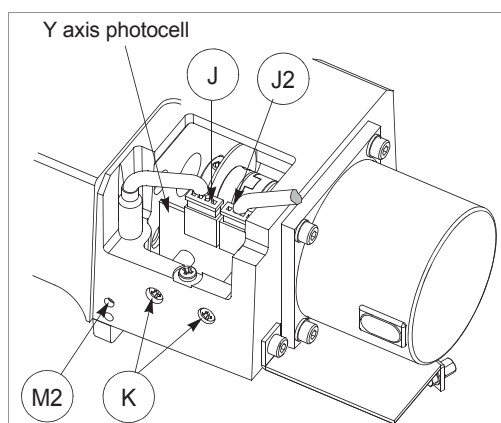

Fig. 148
- 4) disconnect the (J2) photocell cable and (J) sensor cable (fig. 148).
- 5) unscrew the 2 (K) screws that hold the photocell card and remove it from the carriage.
- 6) place the new photocell card in the carriage and tighten the 2 (K) supporting screws.